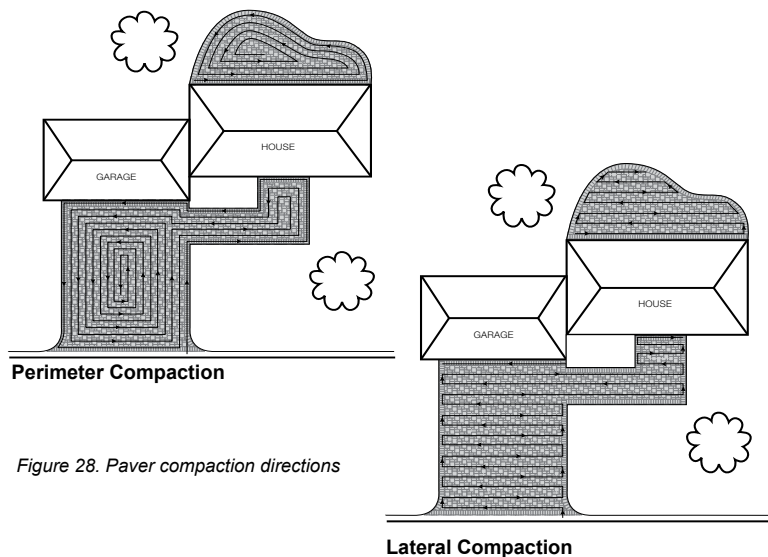

Figure 28. Paver compaction directions
*Compacting procedure* - Run the compactor in parallel rows across the surface of the pavers, making sure you have compacted all pavers. Make two or three passes with the compactor in different directions (Figure 28).